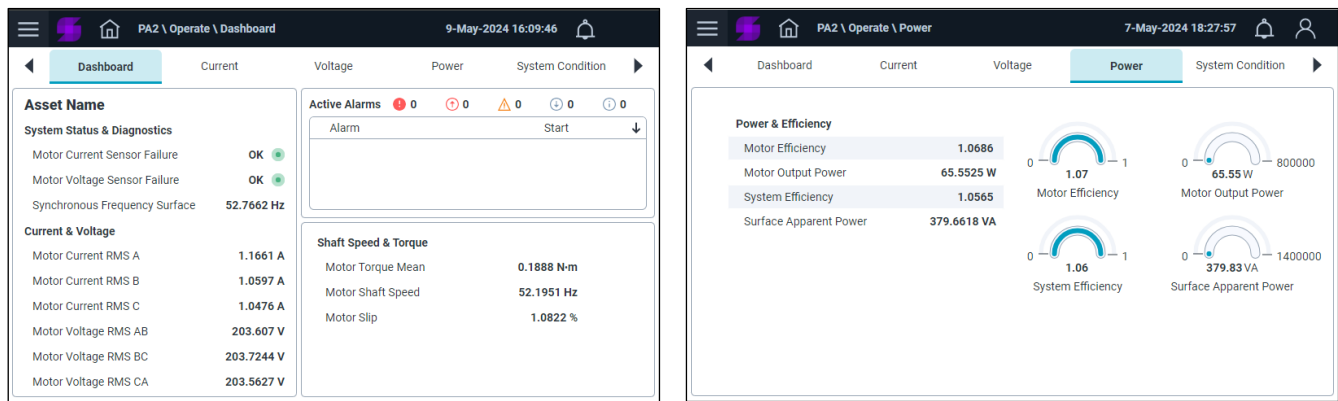

Figure 1.3—Local HMI display
- on a local HMI display (Figure 1.3)